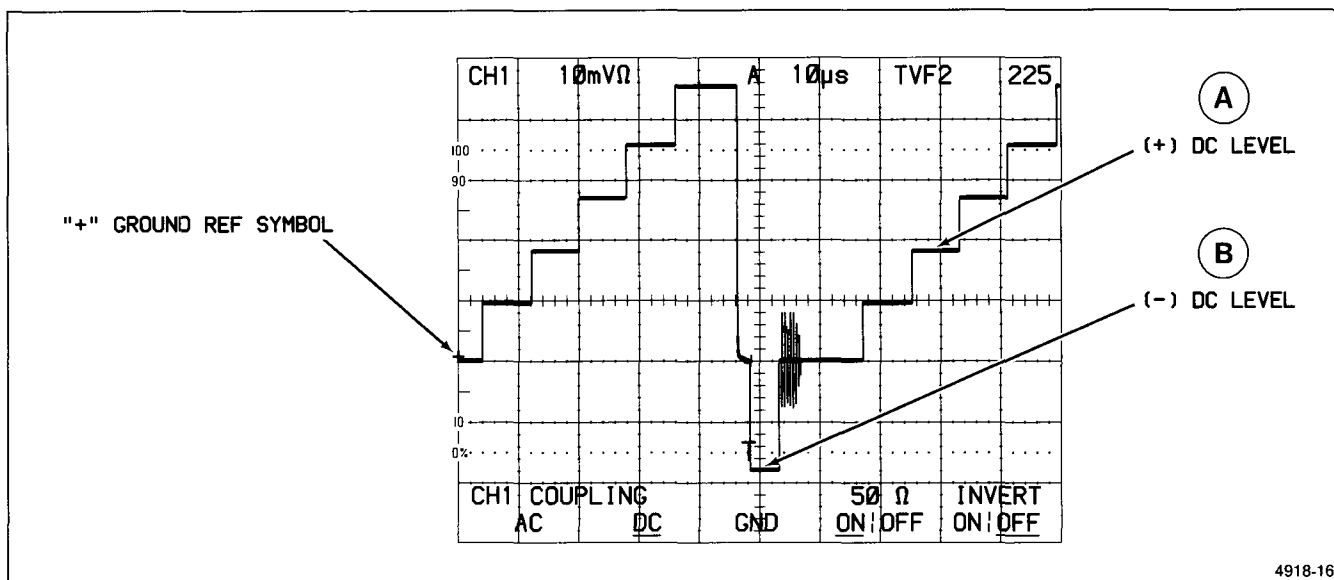

Figure 6-2. Instantaneous DC voltage levels on a waveform.
3. Vertically position the "+" indicator to a horizontal graticule line. Keep the waveform (or at least the point to be measured) on screen. See Figure 6-2.
Example calculation for the DC Level at Point B of Figure 6-2: